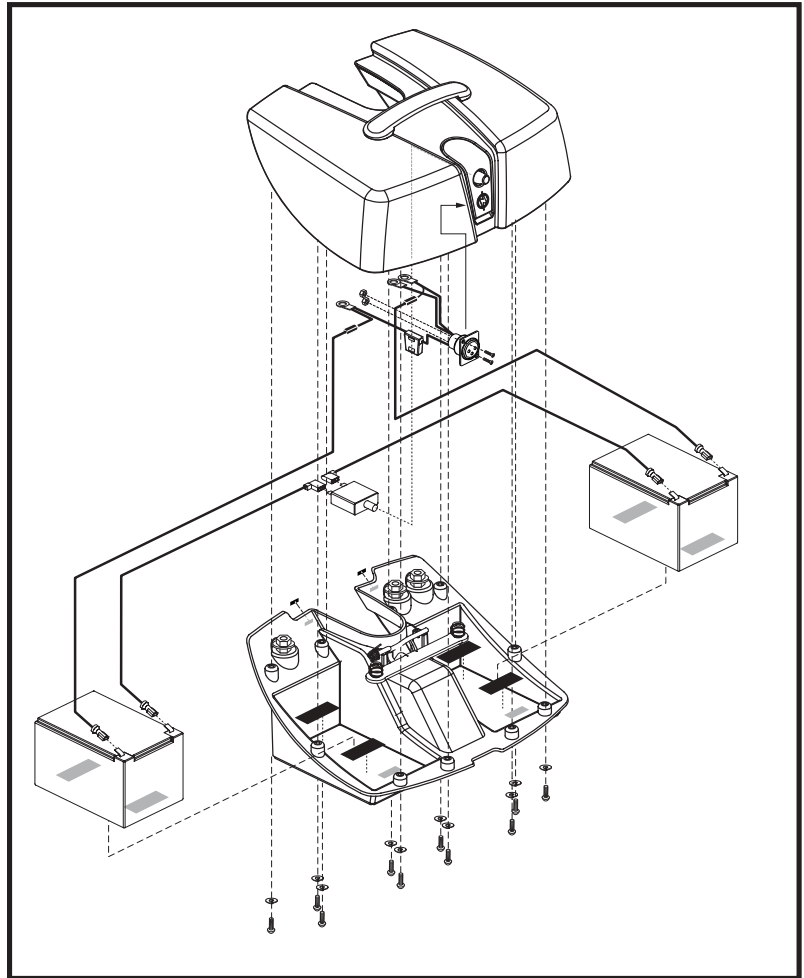

Figure 26. Go-Chair Battery Box
3. Remove all screws that hold the battery box halves together. See figure 26.
8. Reconnect the two (2) battery leads to the battery terminals. Make sure the red lead is connected to the (+) positive terminal and the black lead is connected to the (-) negative terminal.